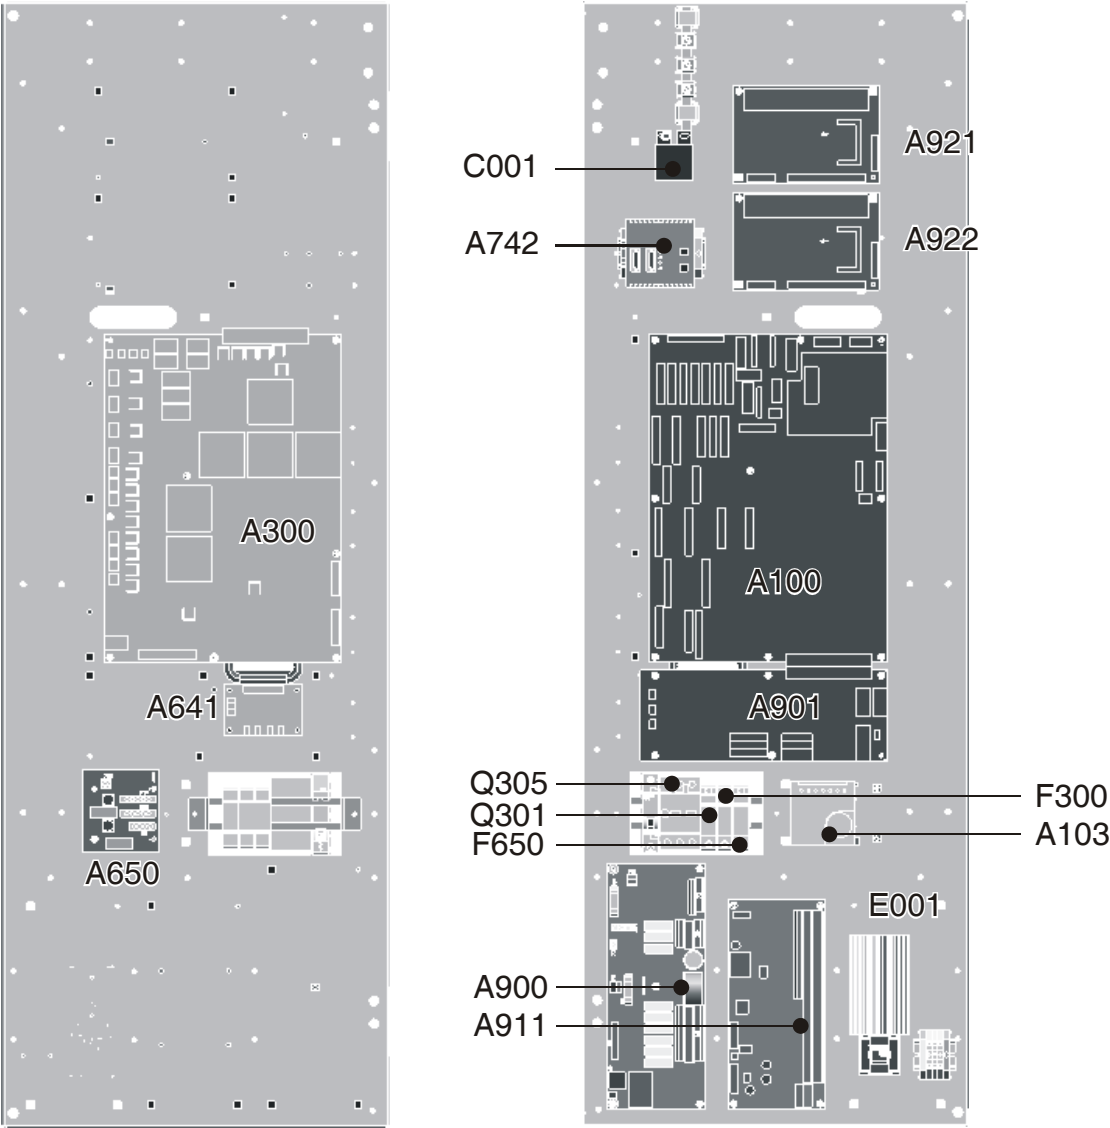

Fig. 11-3 Boards APOCONV 100 – 120 kVA
**NOTE** Mounting plate see Fig. 11-3.